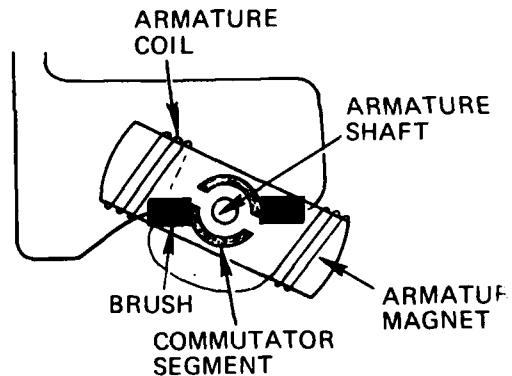

Figure 20
- The brushes are attached to the motor frame and touch the commutator. They provide a path for electricity from the power supply through the commutator to the electromagnet coils in the armature. (See Figure 20)